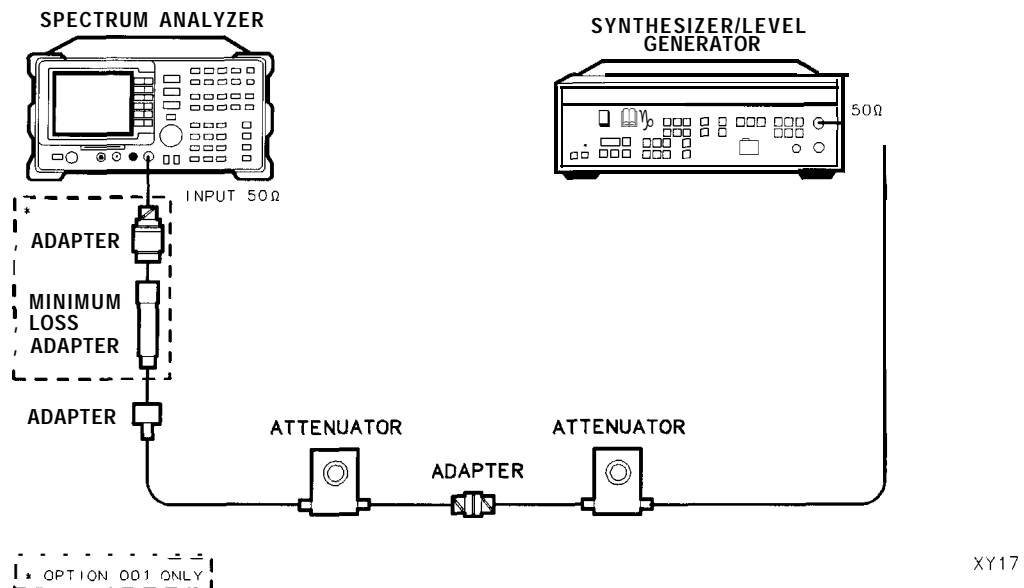

Figure 1-10. Reference Level Accuracy Test Setup
2. Connect the equipment as shown in Figure 1-10. Set the 10 dB step attenuator to 10 dB attenuation and the 1 dB step attenuator to 0 dB attenuation.